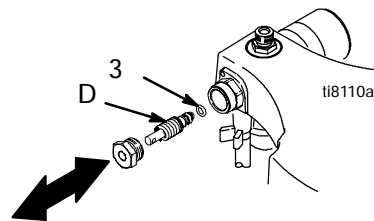

Fig. 3
5. Fig. 3. Remove valve stem (D) from pump manifold.